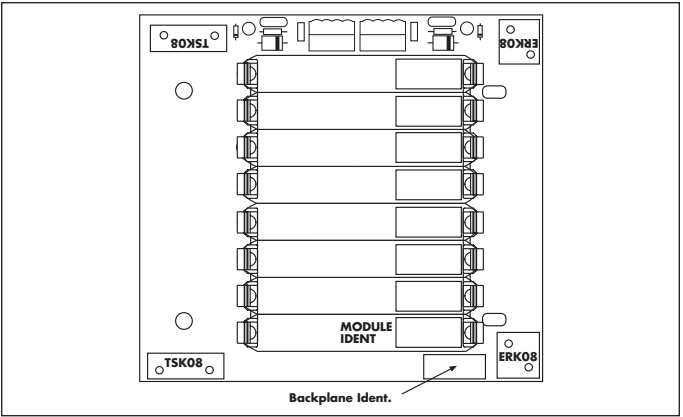

Figure 4.5: Locations for labels and attachments
- a) Attach a suitably marked label to the area marked BACKPLANE IDENT to identify an individual backplane (Figure 4.5).
- b) Attach suitably marked MPL01 module position labels to the areas marked MODULE IDENT (Figure 4.5).